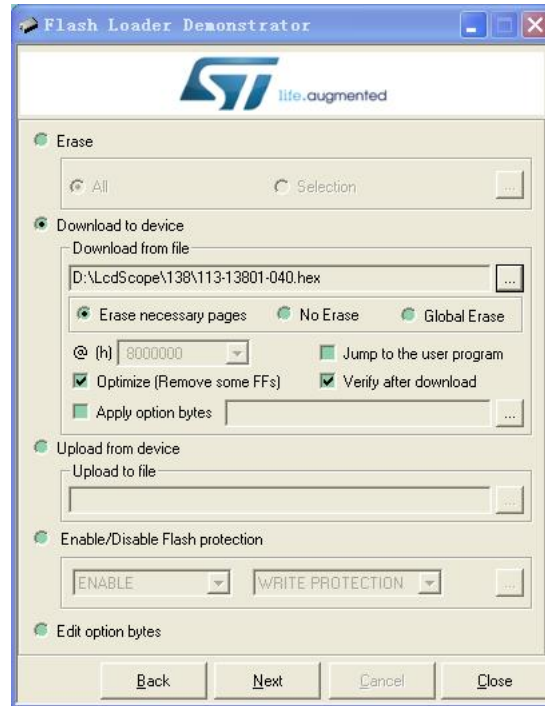

Fig. 8
- 6) In Fig. 8 select "Download to device" and open the firmware file (HEX file) which you have saved on your PC by clicking on the "..." button. Make all the rest settings the same as shown in Fig. 8. Then click on Next to start writing.